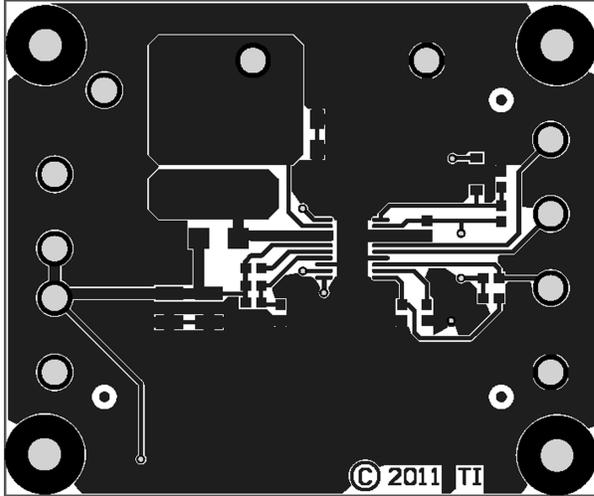
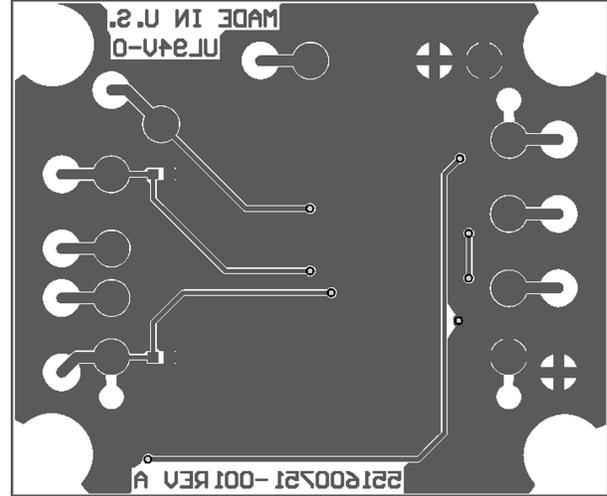

Figure 3. LM3492HC Evaluation Board Top View
Figure 4. LM3492HC Evaluation Board Bottom View
**RRT and RIREF**: The resistors RRT and RIREF set the switching frequency fSW of the boost converter and the LED current ILED respectively. From the LM3492HC datasheet, RRT is selected to be 274 kΩ if fSW is 500 kHz (Figure 3), and RIREF is selected to be 8.25 kΩ if ILED is 150 mA (Figure 4).